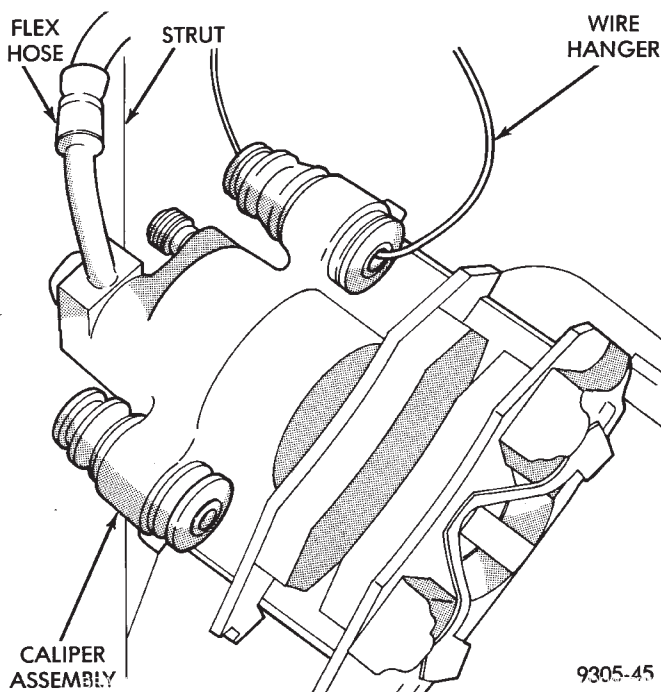

Fig. 60 Storing Caliper
(5) Support caliper assembly firmly from rear strut to prevent weight of caliper from damaging the flexible brake hose (Fig. 60).